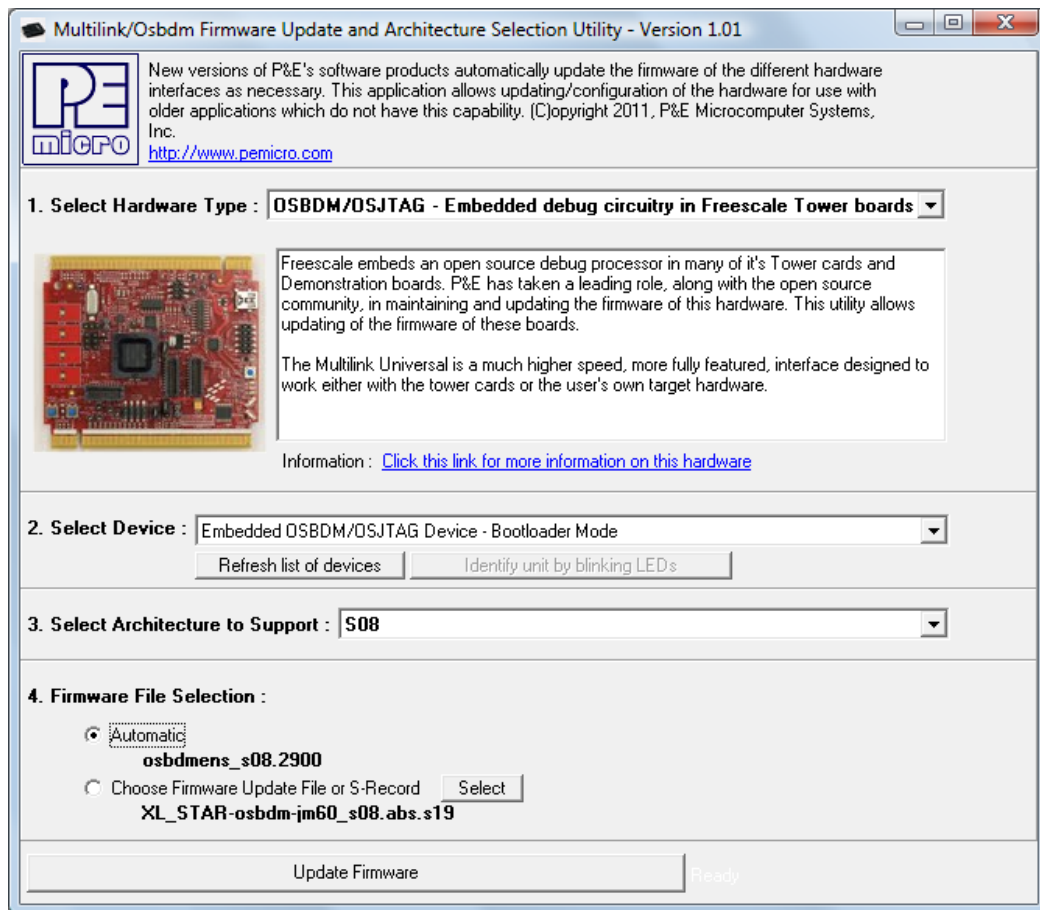

Figure 24: PE Firmware Updater, used to update the bootloader
5. Use the *PE Firmware Updater* program version 1.01, available from Freescale's website (see Figure 24):